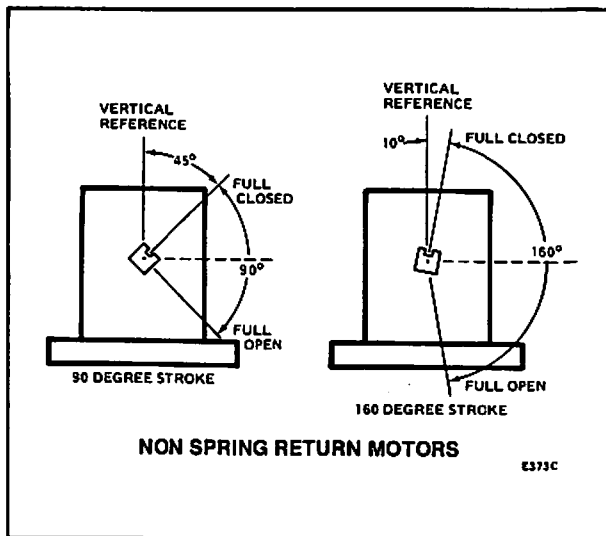

FIG. 2—LIMITS OF MOTOR ROTATION.
**MOTOR ROTATION:** Normally closed\*. The closed position is the limit of counterclockwise rotation as viewed from the power end of the motor. See Fig 2. Motor opens clockwise (as viewed from the power end). Motors are shipped in the closed position.
**STROKE:** Field adjustable from 90° to 160°. Start position of shaft changes with adjustment of stroke. (Midpoint of stroke remains fixed as stroke is adjusted, as shown in Fig. 2.) Stroke is adjusted by means of cams located in wiring compartment. (See Stroke Setting Procedure.) Motors are shipped with stroke set at 90°.